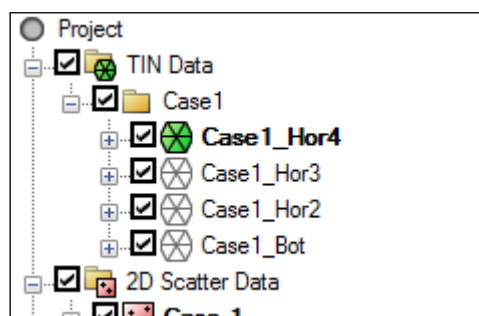

Figure 5 TINs organized into a folder
3. In the Project Explorer, drag and drop each of the four TINs into the  "Case1" folder (see Figure 5).